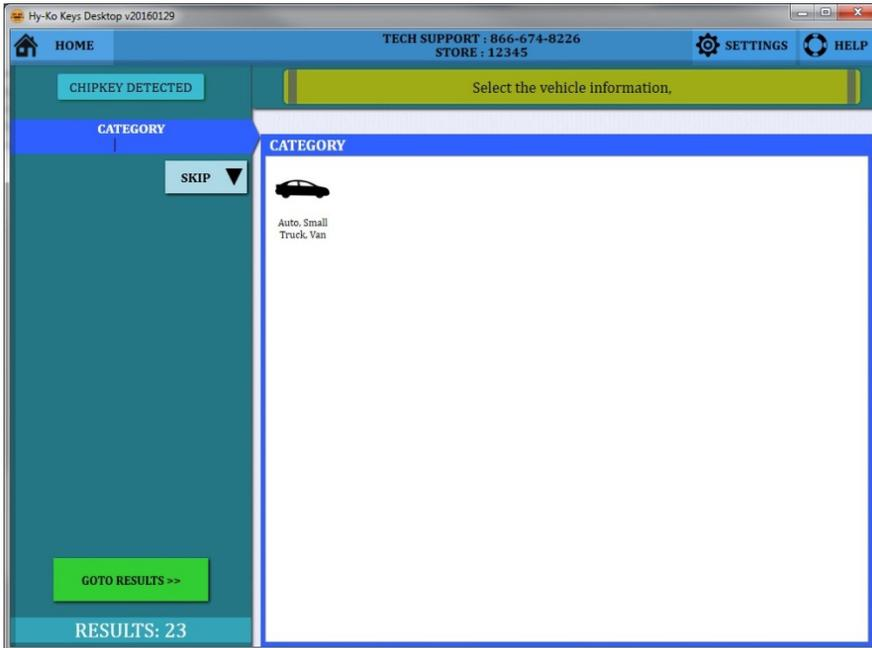

fig. 79
- Choose 'Auto, Small Truck, Van' for the category (see fig. 79).